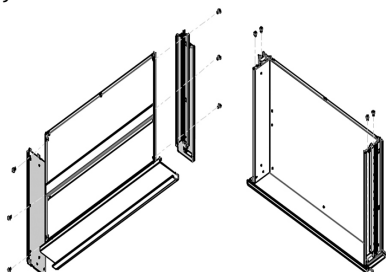

Figure 9
16. Attach the drawer's left- and right-side panels (#14-3 and 14-4) to the bottom panel with six M4 x 10 screws (Fig. 9). Make sure the panels are on the correct sides so they will line up with the ball bearing slides mounted in the cabinet.